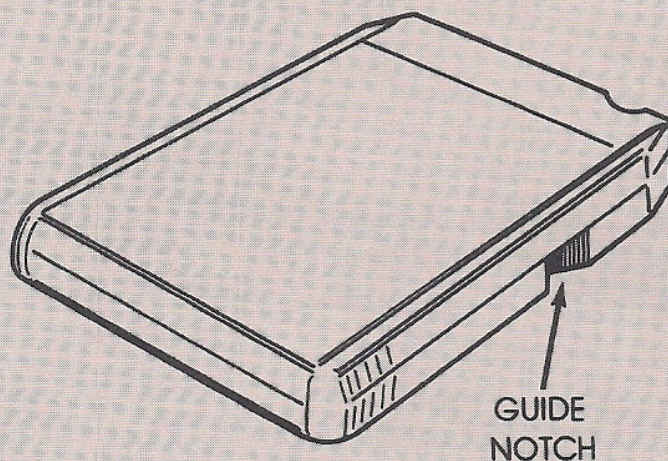

Figure 14
2. Insert a previously recorded 8-Track Cartridge (Guide Notch to the right, as shown in Fig. 14) into the Tape Slot. When the Cartridge is firmly seated, and locked-in, one of the four Program Indicator Lights will be illuminated to indicate the Program being played.